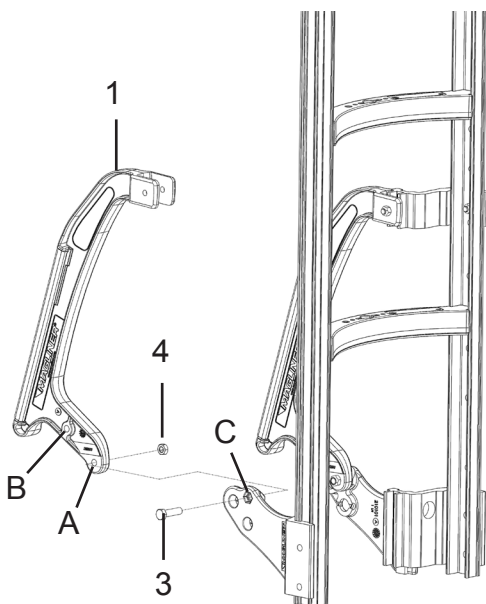

Figure 1
- Align the hole marked "C" of the wheel bracket with the corresponding bottom hole of the stair climber - hole marked "A" for 10" wheels or "B" for 8" wheels (see Figure 1).